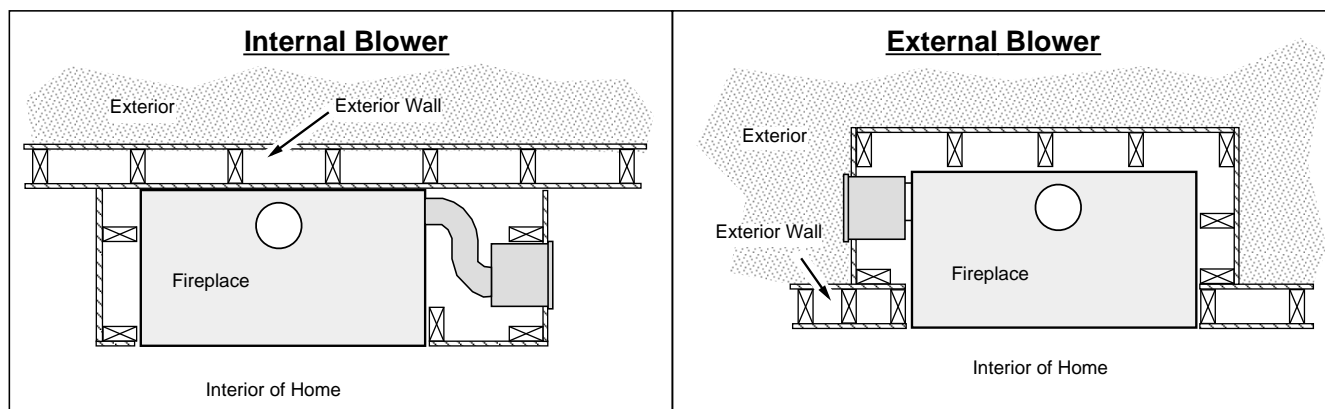

Figure 13
- The blower may be located to draw air from the interior or exterior of the home (see Figure 13).